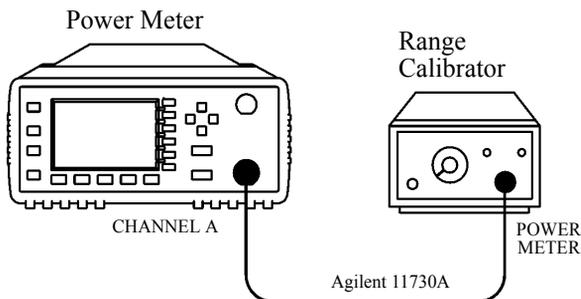

Figure 2-1: Zero Test Setup
1. Connect the equipment as shown in Figure 2-1.